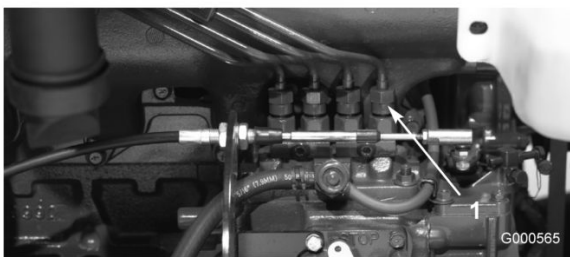

Figure 40
1. Loosen the pipe connection to the No. 1 injector nozzle and holder assembly at the injection pump (Figure 40).